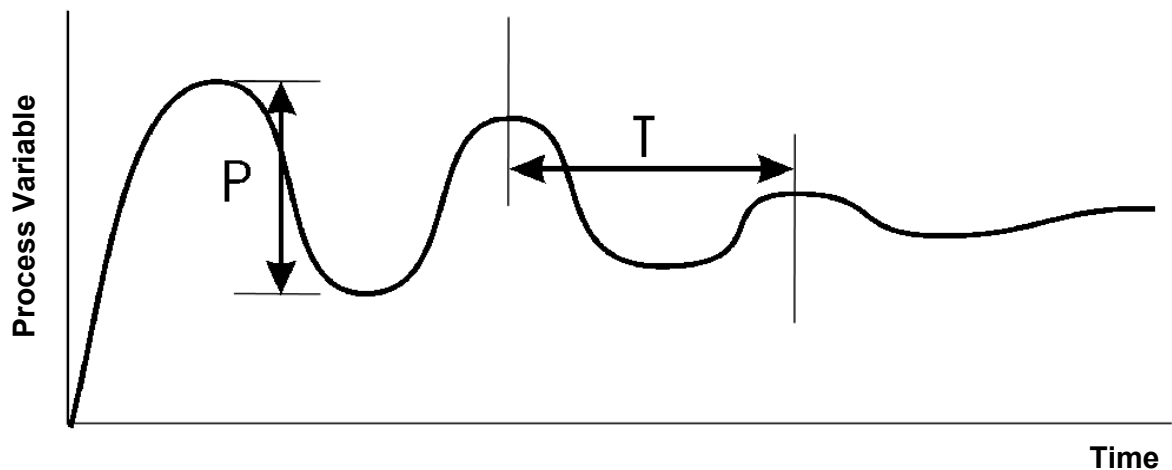

Figure 35 - Manual Tuning
3. Switch on the process. The process variable will oscillate about the setpoint. Note (a) the Peak-to-Peak variation (P) of the first cycle i.e. the difference between the highest value of the first overshoot and the lowest value of the first undershoot, and (b) the time period of this oscillation (T) in minutes. See Figure 35 – Manual Tuning.